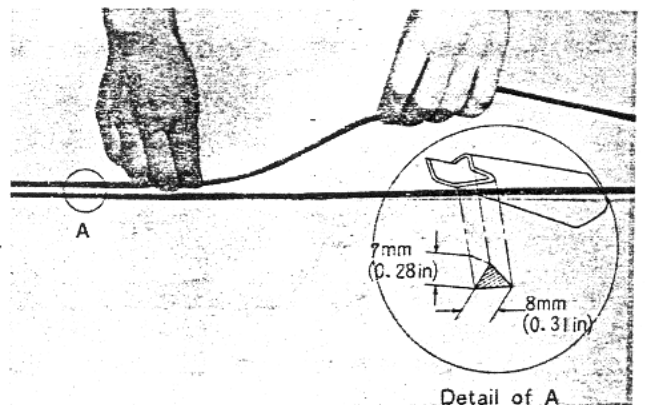

Fig. 14-28 Bonding dam
2. Clean the glass thoroughly and bond the dam with bonding agent parallel to the edge of the glass at a position 7 mm (0.028 in) away from it. Bond the dam in the direction shown in Fig. 14-28.